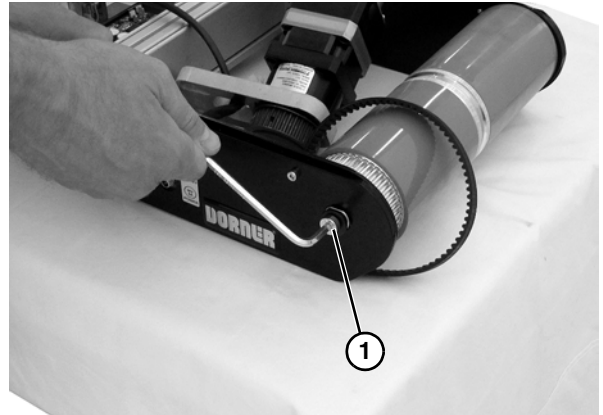

Figure 57
7. Remove hex head screw (**Figure 57, item 1**) and washer from both sides of the conveyor.